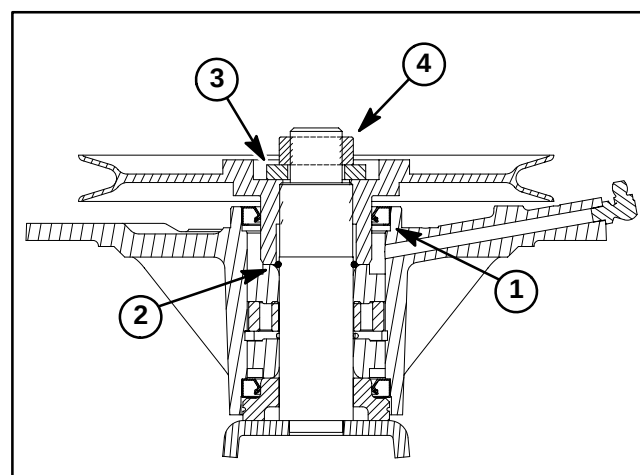

Figure 8
9. Install greased o-ring to top of spindle shaft (Fig. 8).